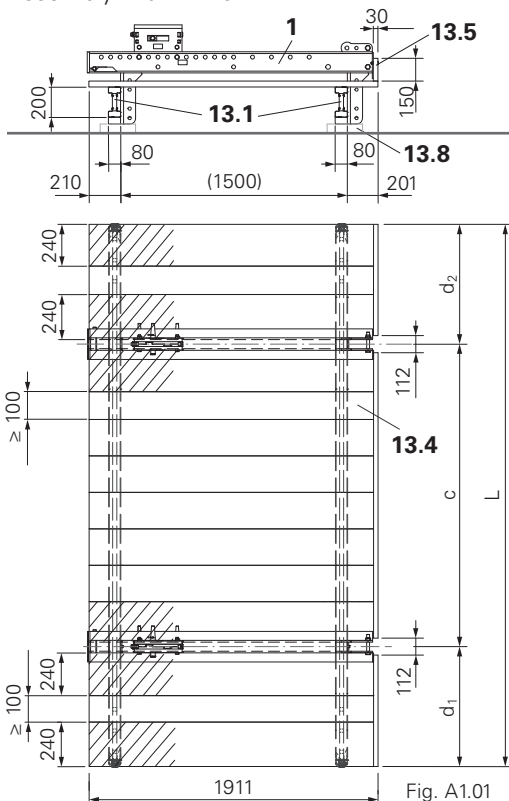
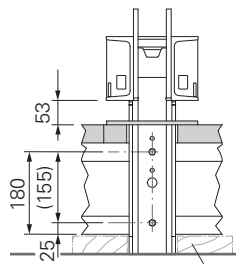
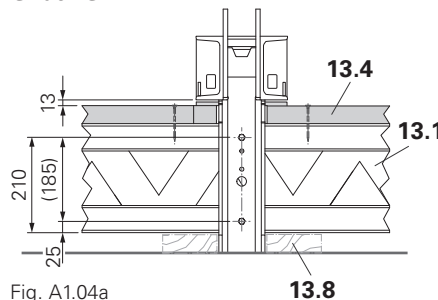

Fig. A1.01
Fig. A1.03a
Fig. A1.04a
SCS 190: 1911 mm. (Fig. A1.01)
1. Position Crossbeam (1/2) on the support timber (13.8) and align. (Fig. A1.01 or A1.02)
2. Place VT 20 (13.1) in the support of the Crossbeam and align components at right angles to each other. (Fig. A1.01 or A1.02 + Fig. A1.03a)
- Fix VT 20 to the Crossbeam using 2 x wood screws 8 x 60 in each case. (Fig. A1.01 or A1.02 + Fig. A1.03a)
Note: cut planking width \geq 100 mm! (Fig. A1.01 or A1.02)
- Fix GT 24 to the Crossbeam using 2 x wood screws 8 x 60 in each case. (Fig. A1.01 or A1.02 + Fig. A1.04a)
SCS 190: 1911 mm. (Abb. A1.01)
(Fig. A1.01 or A1.02)
2. Place timber 80 x 160 mm (13.1) in the support of the crossbeam and align components at right angles to each other. (Fig. A1.01 or A1.02)
- VT 20: see Fig. A1.03a.
- GT 24: see Fig. A1.04a.
- SCS 190: 1911 mm. (Abb. A1.01)